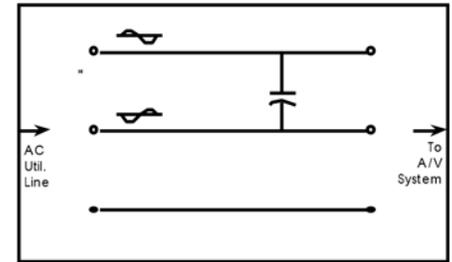

Figure 1A: A series type filter.
sometimes resistors (R) and transformers (T). Figure 1a shows an example of how differential-mode noise is typically handled by filtering on the power line. Since the phases are opposite, when they are combined, the noise cancels out. A simple and almost universal method is to place a small value capacitor ($.01-.05\mu\text{fd}$) across the lines to effect this cancellation of unwanted frequencies (noise). As frequencies get higher, the capacitor begins to look like a good conductor, and the two out-of-phase noise signals will cancel each other out.